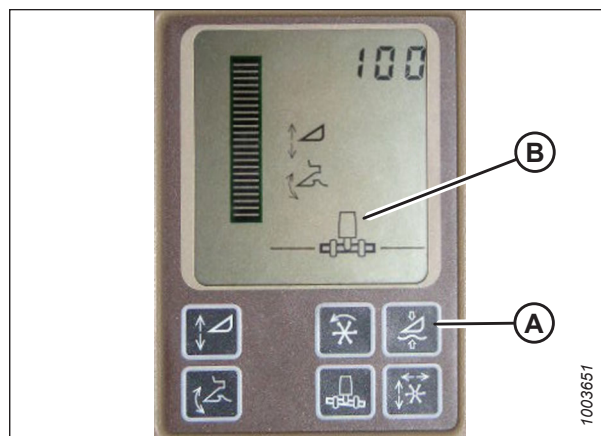

Figure 7.299: John Deere Combine Display
Do **NOT** use active header float function (A) in combination with the MacDon auto header height control (AHHC)—the two systems will counteract one another. Header symbol (B) on the display should **NOT** have a wavy line under it and should appear exactly as shown on the Active Header Control Display in Figure 7.299, page 320.